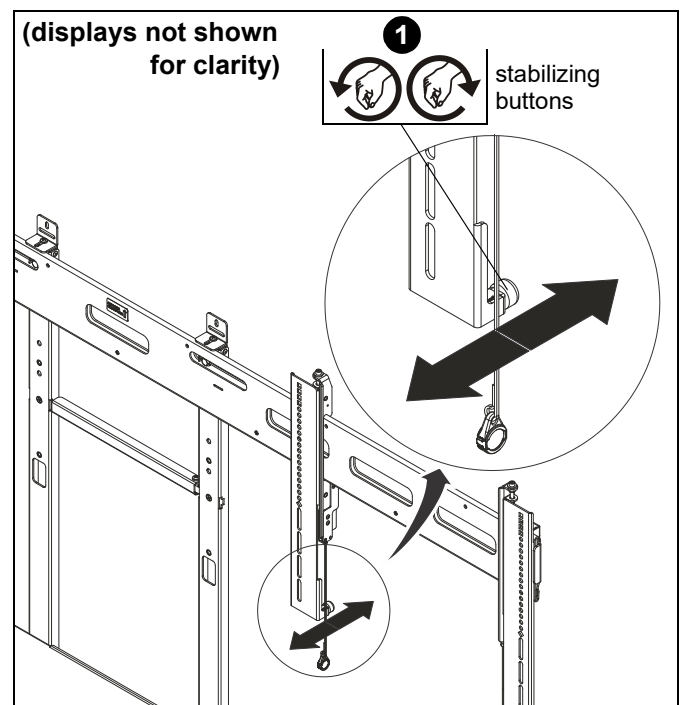

Figure 15
1. Rotate stabilizing buttons to increase or decrease tilt of each upright. (See Figure 15)